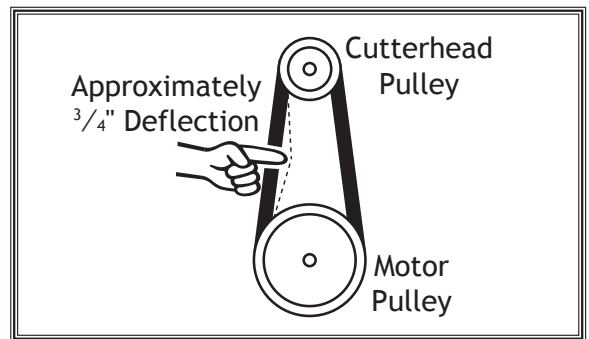

Figure 46. Belt deflection when V-belts are correctly tensioned.
**Note:** V-belts are correctly tensioned when there is approximately  $\frac{3}{4}$ " deflection when moderate pressure is applied to belts midway between pulleys, as illustrated in Figure 46.